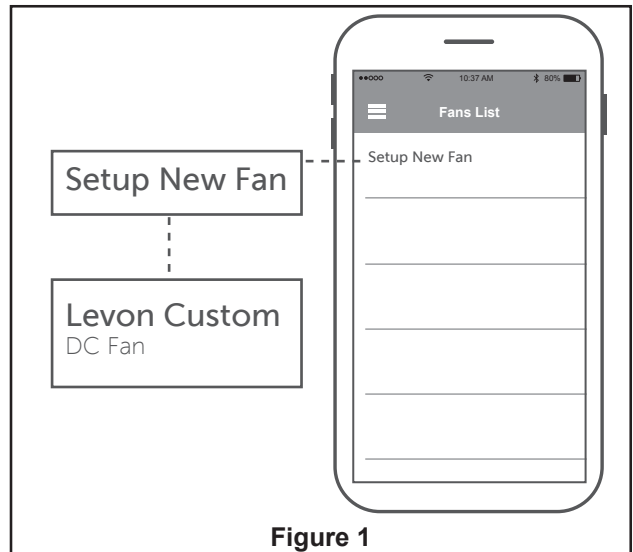

Figure 1
1. Open the fanSync app and tap Setup New Fan to begin setup. (Figure 1)
1. **Installing Wall Holder:** (Figure 1)